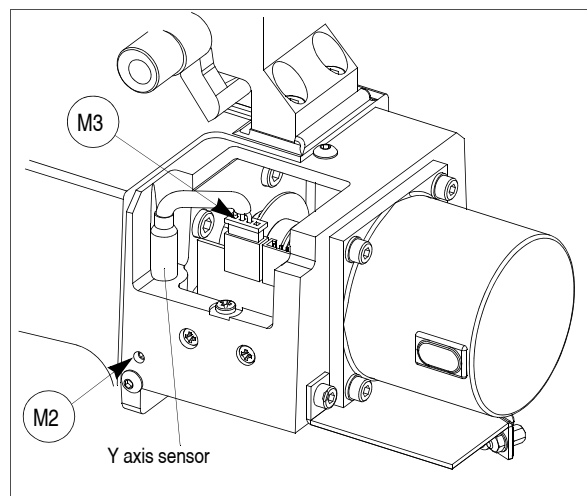

Fig. 60
- 5) disconnect the (M3) sensor's connector (fig. 60).